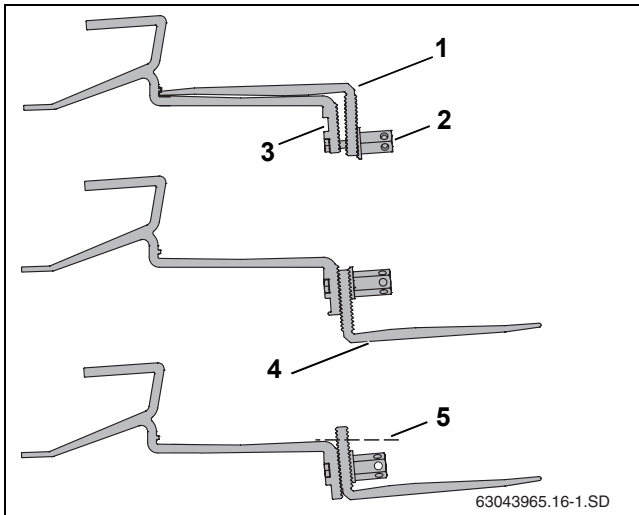

Fig. 13 Fastening roof hooks to rafter
In the case of some roof covers, it may be necessary to underlay the lower part with boards/planks (Fig. 13, [4]) for the roof hook to lie on top of the roof tile.
- ▶ Loosen the long hexagon nut (Fig. 13, [2]).
- ▶ Insert the screw in the upper hole (Fig. 13, [3]).
- ▶ Loosely fasten the lower part of the roof hook (Fig. 13, [1]). Do not tighten the connection yet.